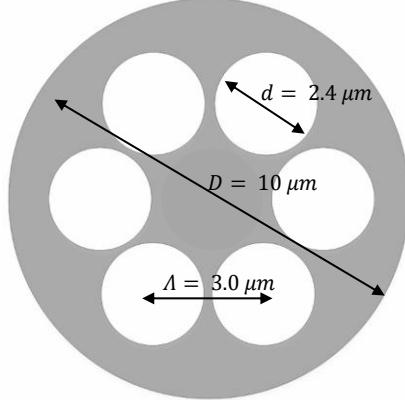

Figure Q1
The structure and geometrical properties of a single material PCF is given in the Figure Q1. This structure is expected to fabricate having the refractive index of host material of 1.45 at the central wavelength of the laser pump of 693.8 nm . The values of pitch (Λ), air hole diameter (d) and diameter of PCF (D) are $3.0\text{ }\mu\text{m}$, $2.4\text{ }\mu\text{m}$ and $10\text{ }\mu\text{m}$ respectively. The refractive index of background material (host material) is 1.45.